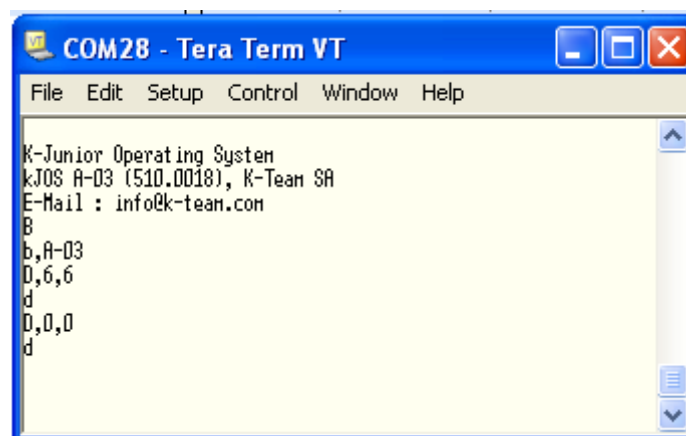

Figure 4.8: K-Junior boot message and commands on a terminal
- You should see a boot message similar as in figure 4.8. If not, verify that your K-Junior is correctly powered (power On Led blinks), that the settings of the terminal and the USB driver are correct.